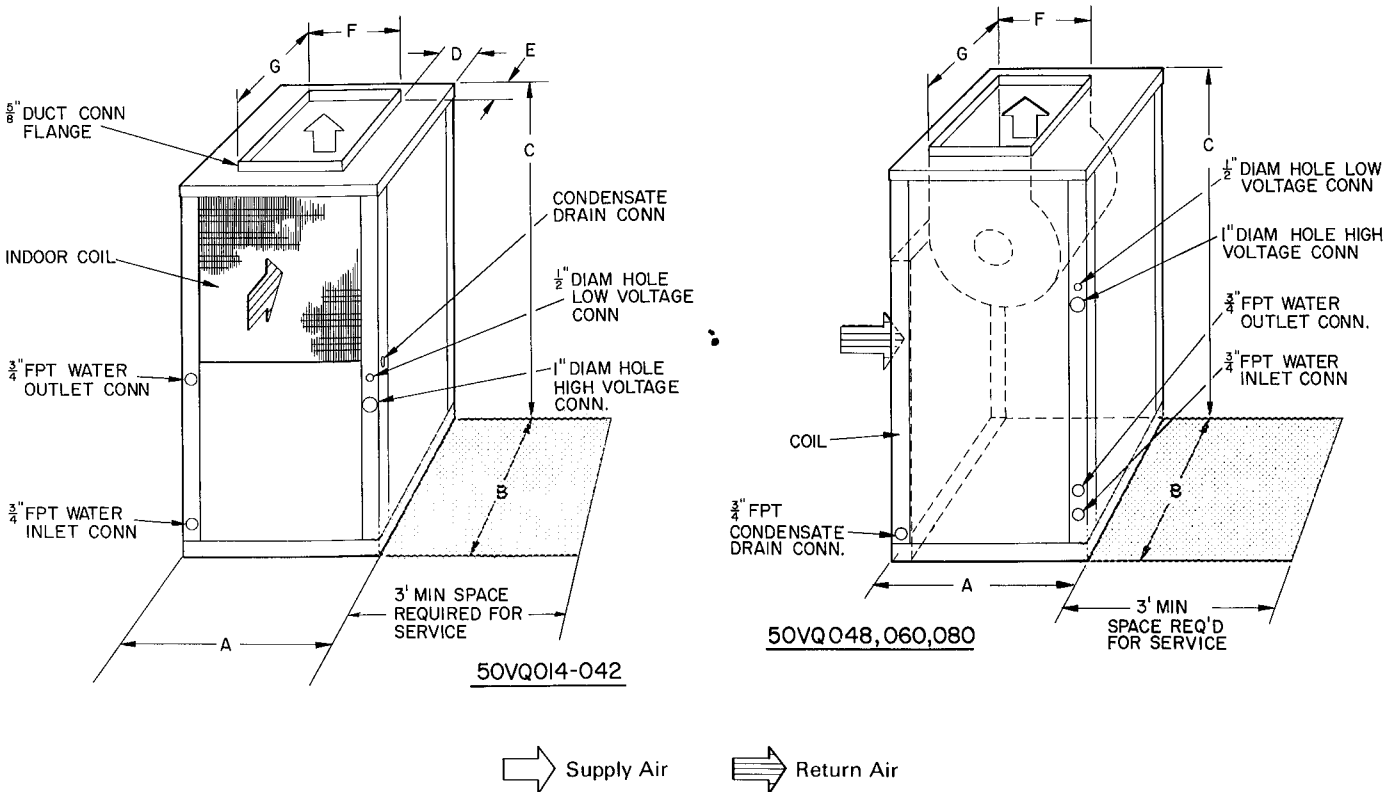
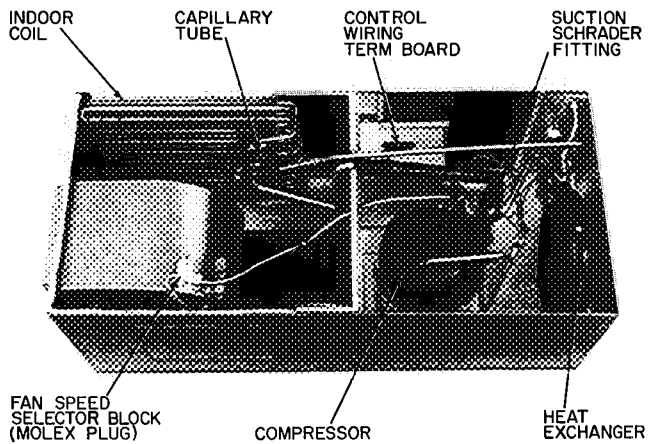
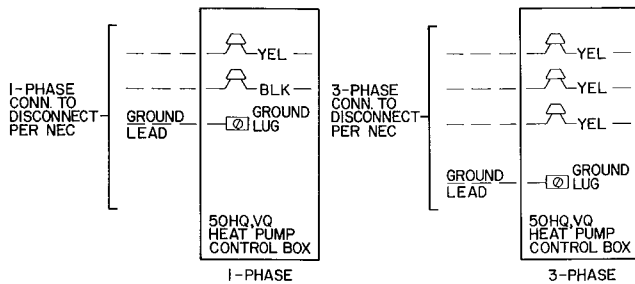

Fig. 1 — Dimensions and Connections — 50VQ
Fig. 7 — Typical Component Arrangement (50HQ014-042 Shown)
Fig. 6 — Line Power Connections
- c. Provide sufficient space for water piping, condensate drain, wiring and servicing unit. See Fig. 1. When front (external) water piping connections are used, locate unit so piping does not block front access panels. (Units installed in confined areas may have to be removed for major servicing such as compressor or fan motor replacement.)
Step 2 — Connect Supply Ductwork — Supply air duct flange is shipped inside unit. Remove flange from shipping location and install on unit supply air opening. Connect supply air ductwork to unit supply air duct connection flange. Refer to Fig. 1 and 2 and Table 1 and 2 for connection size and location. If necessary, refer to Carrier System Design Manual, Part 2, for system air duct design.
Table 1 — Installation Data — 50VQ (See Fig. 1.)
BRING POWER LEADS INTO UNIT — Extend leads from disconnect per NEC thru hole provided (Fig. 1 and 2) into line wiring splice box, Fig. 6.
CONNECT GROUND LEAD TO GROUND LUG IN SPLICE BOX for safety. Connect power wiring. See Fig. 6. Splice line power leads to yellow and black pigtailed on single-phase units or yellow pigtailed on 3-phase units. Use wire nuts. Tape each connection.
2. Locate Molex fan speed selector block on fan housing, Fig. 7. Selector block receptacle 1 is high fan speed, receptacle 2 is medium fan speed and receptacle 3 is low fan speed. Yellow and black fan motor power leads from control box are connected to selector block receptacle C and 1. Yellow lead is common, black lead is speed-change lead.
— Power leads are brought thru 1/2-in. hole provided in unit, Fig. 1 and 2. Extend leads to control wiring terminal board located on top of control box, Fig. 7. Connect leads to terminal board as shown in Fig. 6.